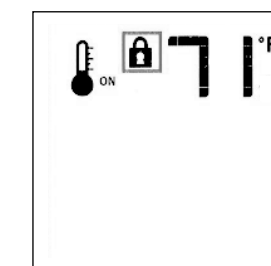

Fig. 14.17. Lock ON.
- To activate the Lock, press the Mode key and UP Key at the same time. Fig. 14.17.